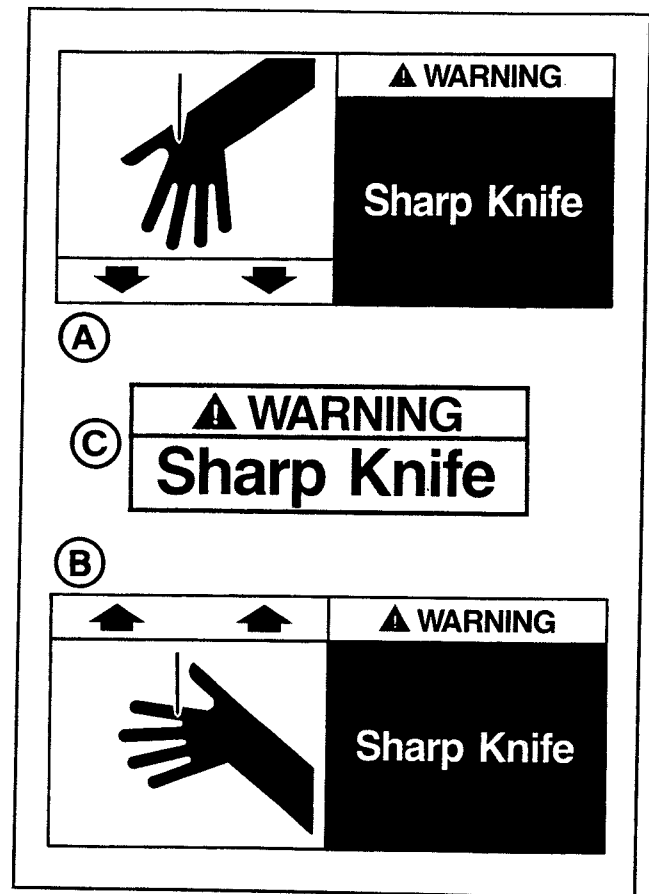

Figure 1-1 – Knife Warning Labels
Two illustrated labels (A) "Warning Sharp Knife", shown in Figure 1-1, are attached to the sides of the upper frame at the location of the cut-off blade on the upper taping head. Two illustrated labels (B) are attached to the bed frame at the location of the cut-off blade on the lower tape head. The labels warn operators and service personnel of the very sharp knife used to cut the tape at the end of the tape application.
The "Warning - Sharp Knife" label (C) shown in Figure 1-1, is attached to the orange cut-off blade guard on both taping heads. The label warns the operator and service personnel of the very sharp knife located behind the guard and to keep hands out of this area except for tape loading and/or servicing the taping heads.